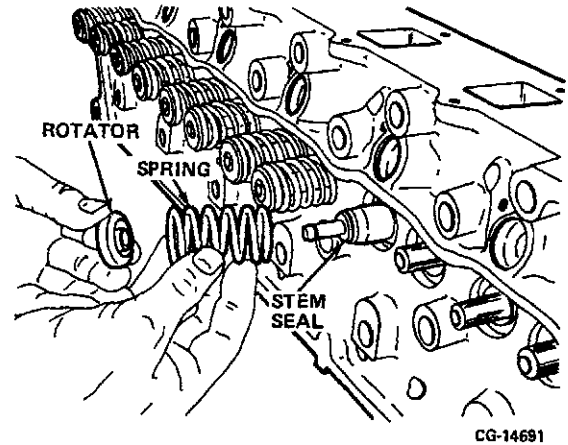

Figure 4.30. Remove Valve Rotator, Spring and Stem Seal Assembly
5. Remove the valve rotator, valve spring, stem shield assembly and valve as shown in **Figure 4.30**.